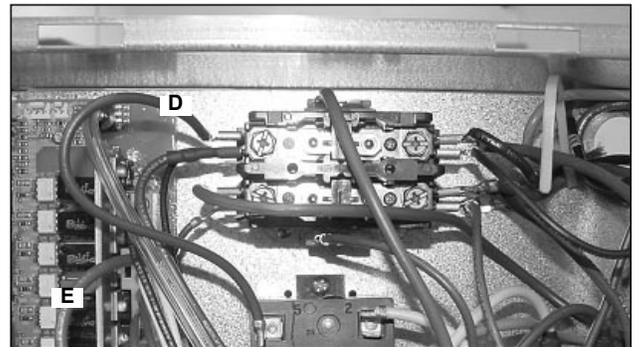

Figure 17.
- (Figure 17) High Pressure Cutout (D and E) – 2 blue wires (Contactor and #5 pin on control board).